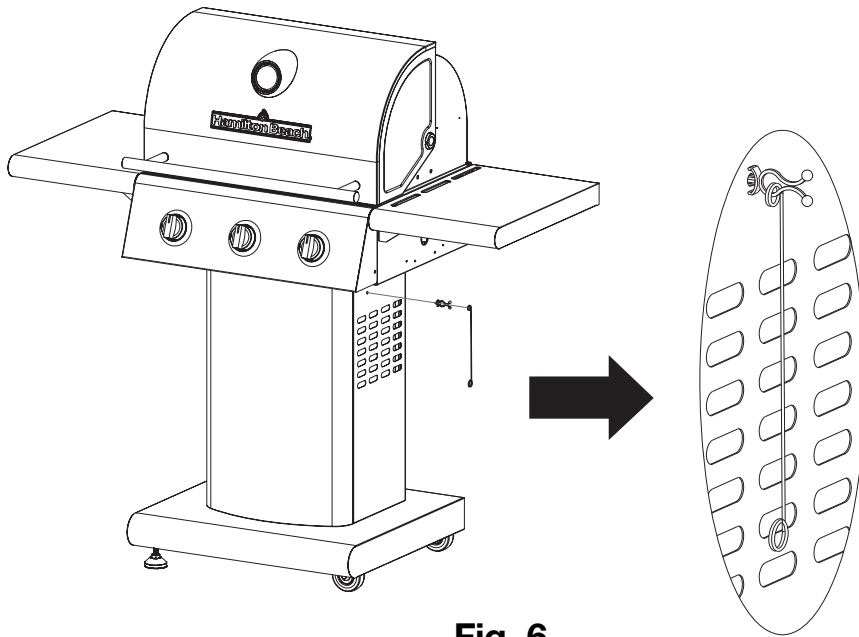

Fig. 6
1. Insert the nylon knot to the hole on the right side panel; then put the match holder in it and capture it as shown in Fig. 6.